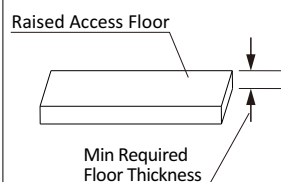

Fig. 1
1. Confirm that the floor thickness exceeds the minimum required installation thickness to ensure proper product installation (Fig. 1).